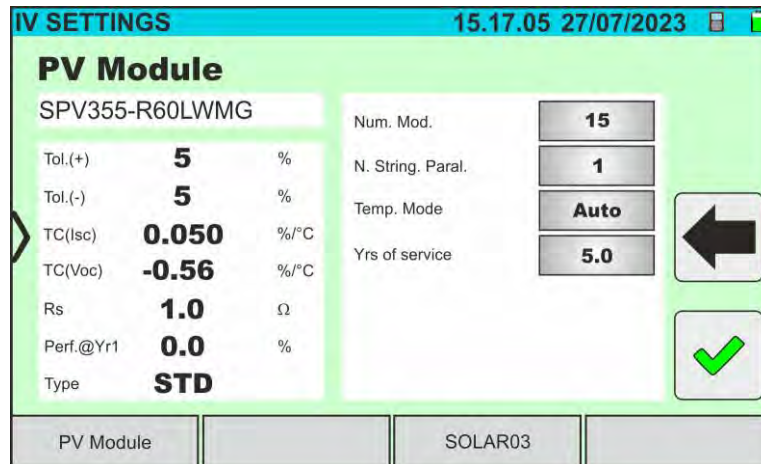

Fig. 36: I-V curve measurement parameter settings
6. Tap on the **"Settings"** key (Monofacial module reference). The following screen is shown in Fig. 36. The following parameters are given: